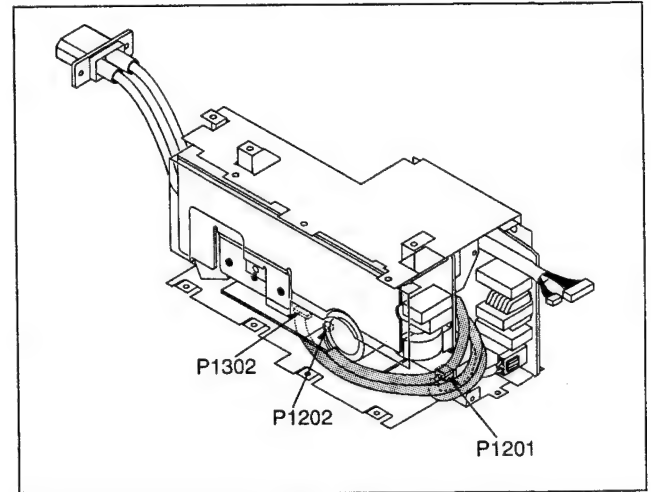

Fig. P6
1. Disconnect connectors P1201, P1202, P1302 as shown in Fig. P6.
Make sure that all cables and leads are placed in their original position as shown in Fig. P6.